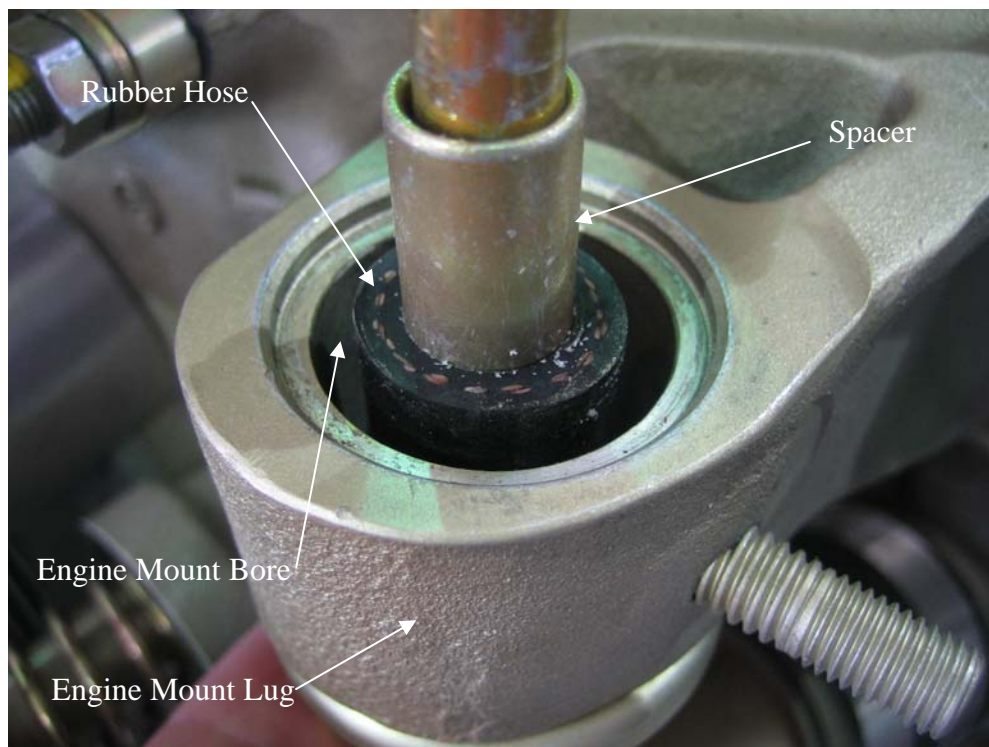

Figure 2
- c. Remove spacer (See Figure 2).
- d. Remove rubber hose from spacer (See Figure 2).